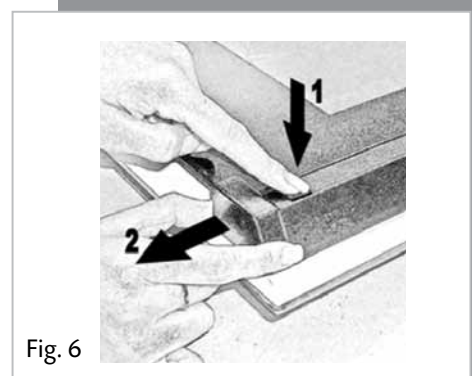

Fig. 6
2. Release the two upper blocks by pressing down as shown in fig. 6.